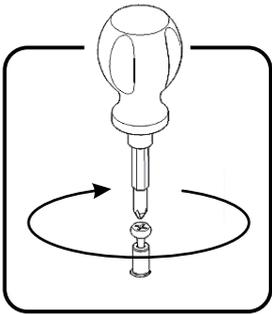

Figure 1
Insert Cam Lock Screws into pre-drilled holes of Side Frames (B), (C) and Middle Panels (D), (E). (See Figure 1)